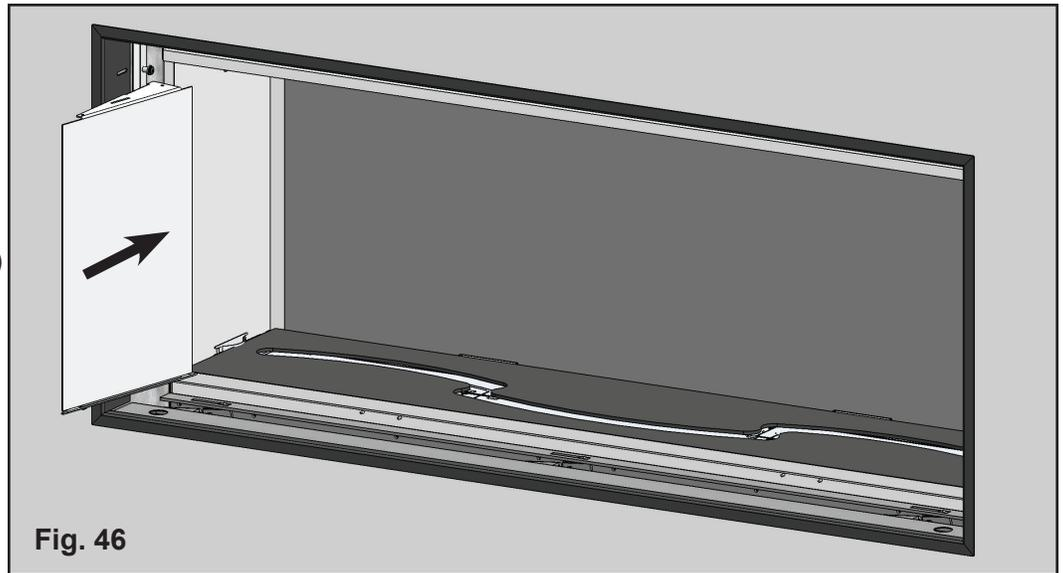

Fig. 46
1. Position the side glass support in the firebox. **(Fig. 46)**